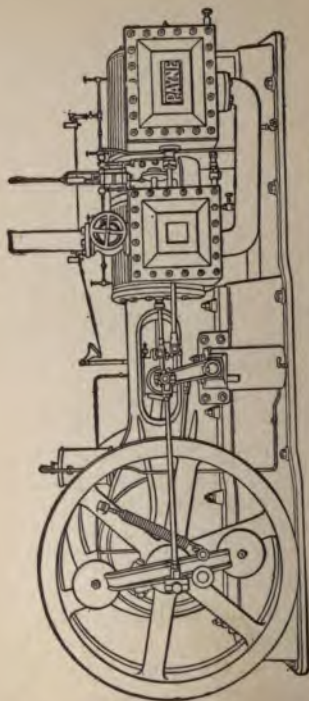

FIG. 150. PAYNE TANDEM COMPOUND ENGINE.
a single piston rod, as shown in the Payne type, Fig. 150.
A. As both pistons move in the same direction at the same time, the valves of the high and low pressure cylinders also move together in the same direction on a through valve rod connected by arms on a rocker shaft to a pin on the arm of an inertia fly-wheel governor as shown in Fig. 150.
A. Looking at the fly wheel, Fig. 150, it will be noticed that the center line of